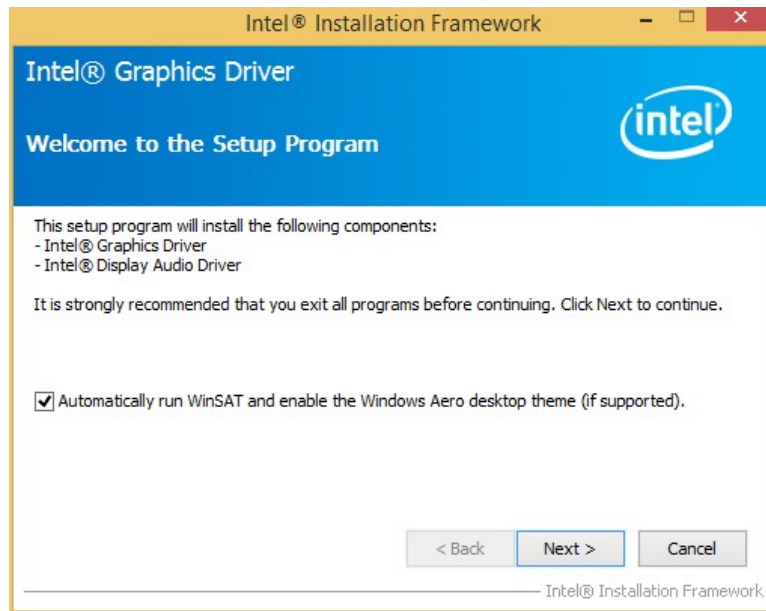

Figure 6-8: Graphics Driver License Agreement
Step 4: The **Welcome Screen** in **Figure 6-8** appears.